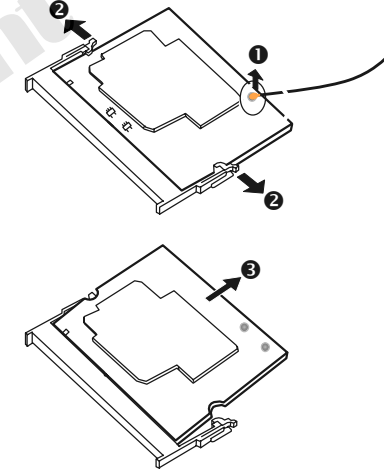

Figure 2-12 Remove the Wireless card
3. Disconnect the wireless card's antennae first (❶). Then pull the retaining clips outwards (❷) and remove the wireless card (❸). (Figure 2-12)